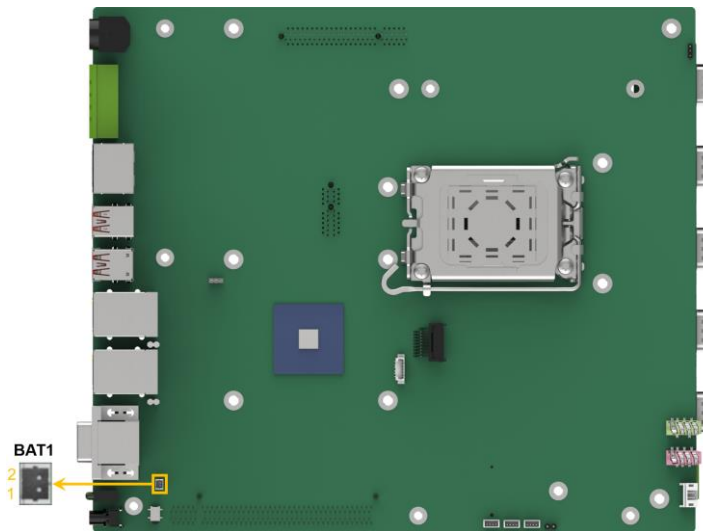

Figure 4-12: RTC Battery Connector Location
- CN Location:** See **Figure 4-12**